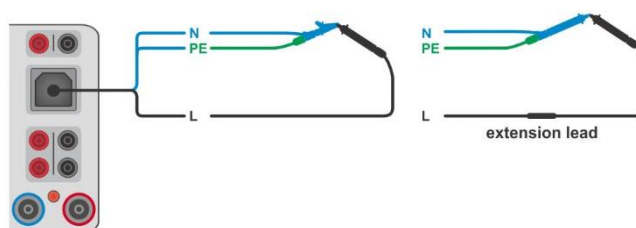

Figure 6.114: Shorted test leads
- › Connect test cable to the instrument and short all test leads together, see **Figure 6.114**.